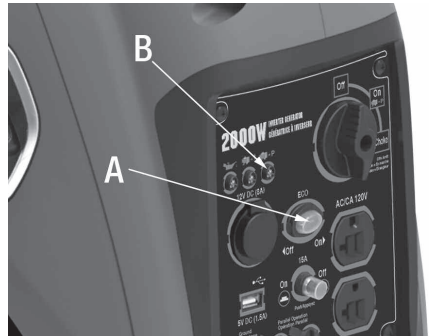

Figure 2
Warning! If high electrical loads are connected, turn the generator's ECO Switch (A) Fig.2 to the Off position to reduce voltage changes. While both Inverter Generators are running, make sure both green power indicator lights(B) are On. If not On, turn the Inverter Generators Off, restart both Inverter Generators and make sure both green power indicator lights are On.